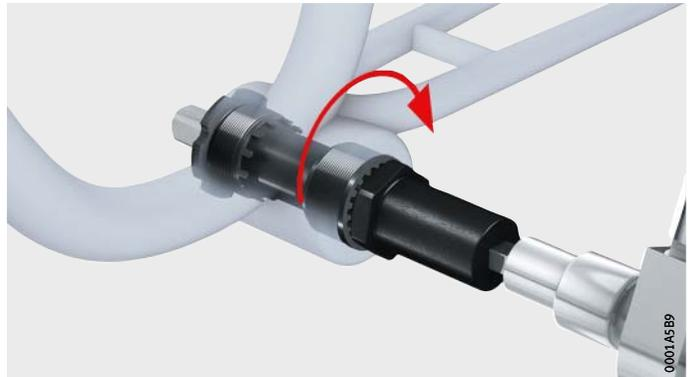

Figure 6
Screw in the bottom bracket bearing housing for the non-chain ring side (RH) using the bottom bracket bearing hand wrench or the bottom bracket bearing wrench socket until the flange is in contact with the frame. The screwing-in direction is clockwise, *Figure 6*.